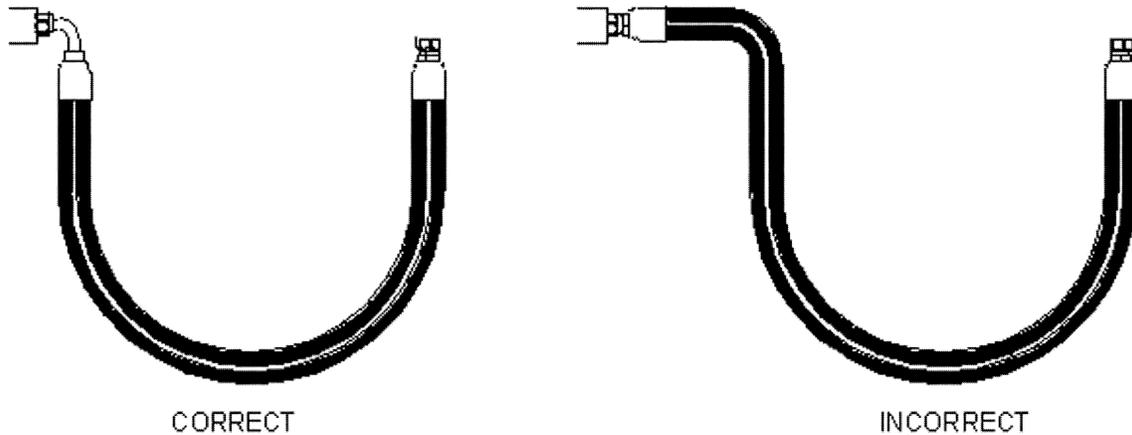

FIGURE 3—ELBOWS AND ADAPTERS
5.22 Elbows and Adapters—In special cases, use elbows or adapters to relieve hose strain (see Figure 3).